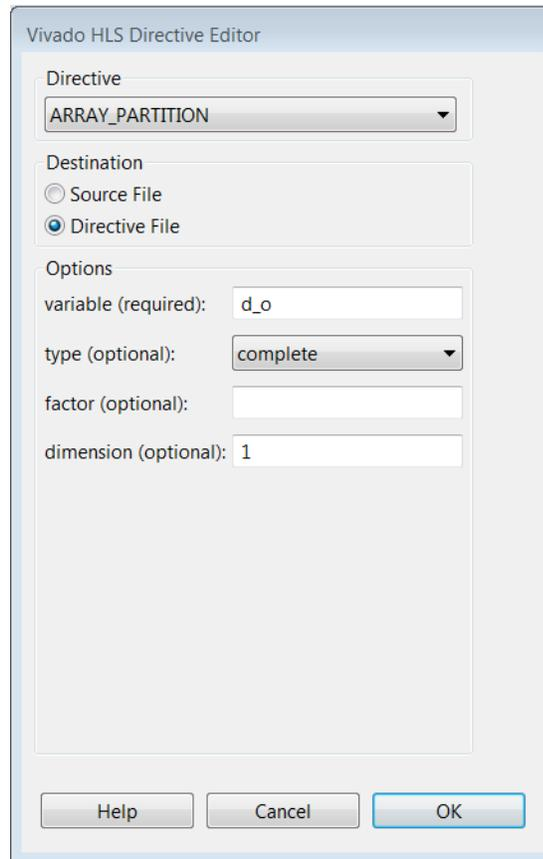

Figure 4-25: Directives Editor for Partitioning Array d\_o
- c. With the Directives Editor as shown in Figure 4-25, click **OK**.